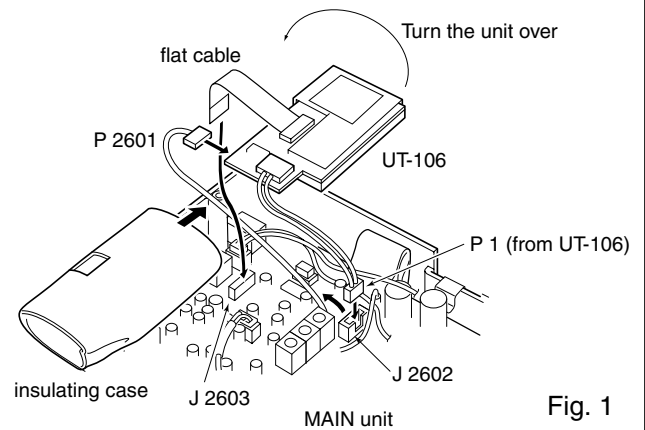
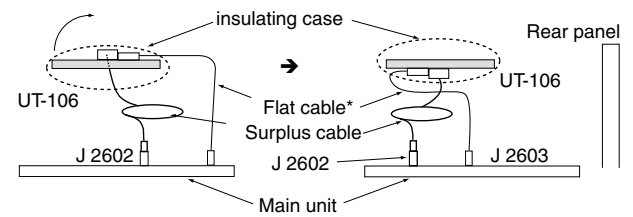

Fig. 1
Fig. 2
- ① Remove the bottom cover.
- ② Slide the insulating case onto the UT-106 as shown right. (Fig. 1)
- ③ Remove the connection cable (P2601) from J2602 on the MAIN unit. Connect the cable into J1 on the UT-106.
- ④ Plug the connection cable (P1) from the UT-106 to J2602 on the MAIN unit.
- ⑤ Plug the flat cable into J3 on the UT-106 and to J2603 on the MAIN unit.
- ⑥ Turn the UT-106 unit over. (Fig. 2)
- ⑦ Put the UT-106 on the MAIN unit.
- ⑧ Return the bottom cover to its original position.